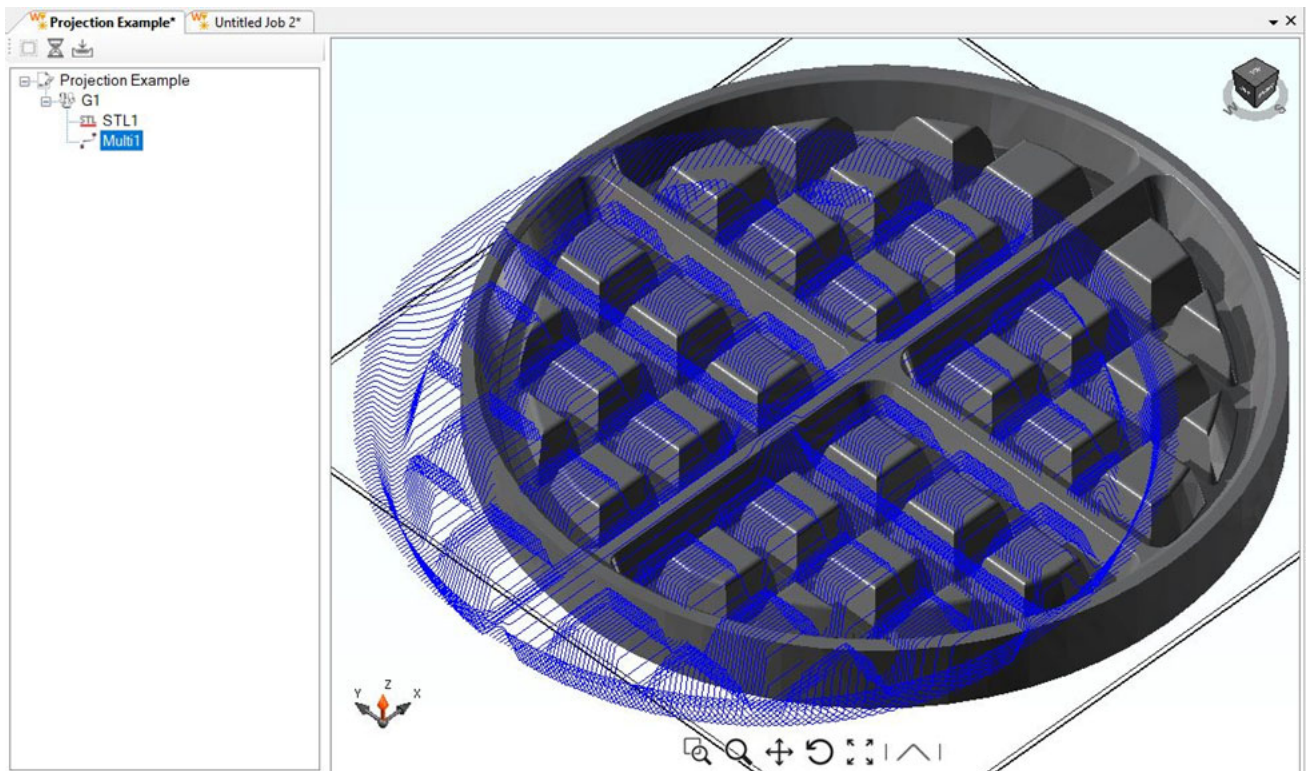

Figure 140: Process Object Moved after Projection
- b. It's also important to know that once a process object is projected onto a STL model, the process object will maintain the contour of the model even if the model or process object is moved. In other words, the process object does not maintain an active mold of the STL model. See Figure 140 (below).